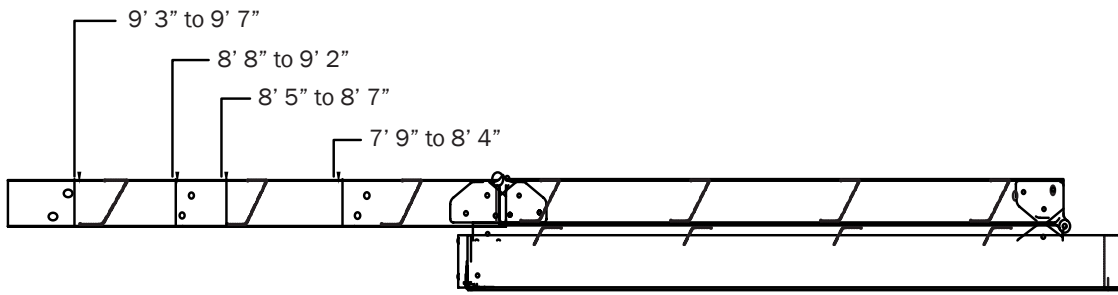

Figure 3
- ~~3. For models AA229GS & AA259GS, unfold the top section as shown in Figure 3.~~